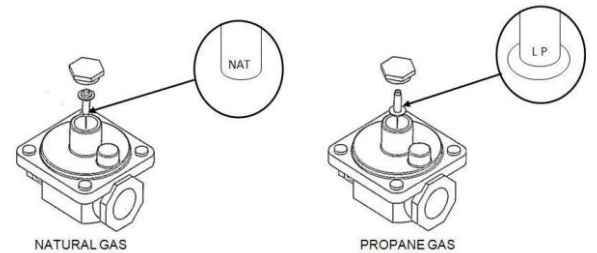

Fig. 6
9. Set the regulator by inverting the regulator spring plug (Fig. 6).